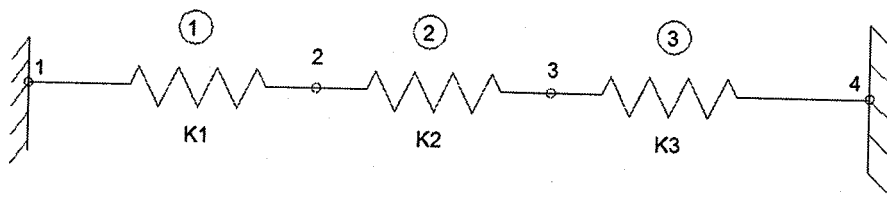

Figure 1
1. For a spring assemble shown in figure 1.  $K_1 = 980 \text{ N/mm}$ ,  $K_2 = 1080 \text{ N/mm}$  and  $K_3 = 2940 \text{ N/mm}$ , A point load of 800 N (rightward) is acting at node 3, obtain :